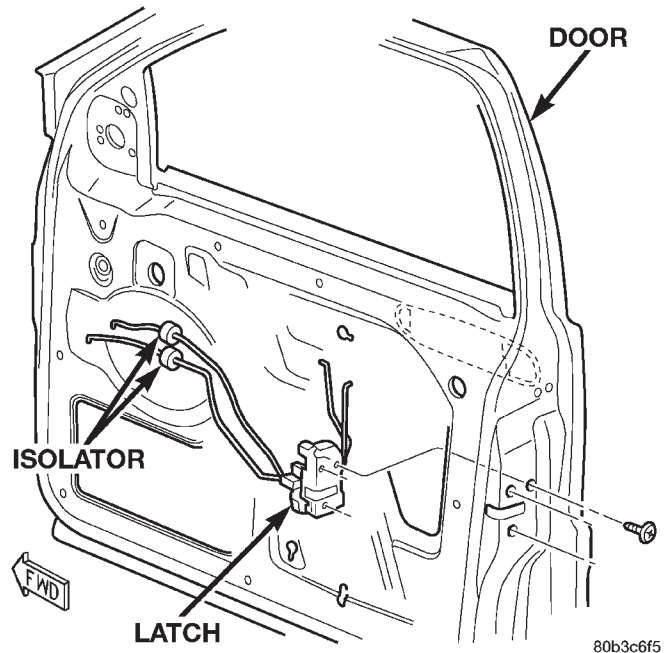

Fig. 22 Door Latch
- (1) Locate glass in full up position.
- (2) Remove door trim panel and isolator.
- (3) Remove glass run channel.
- (4) Remove screws attaching door latch to door (Fig. 22).
- (5) Disconnect all rods from door latch.
- (6) Disconnect wire harness connector, if equipped.
- (7) Separate door latch from door.